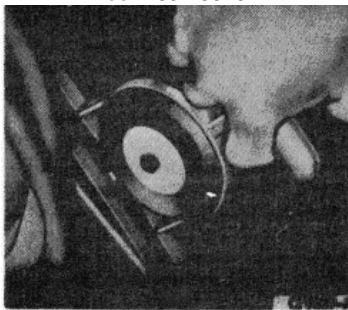

FIG. 1 Belt tensioning
1. Install the belt tension tool on the drive belt (Figure 1) and check the tension.